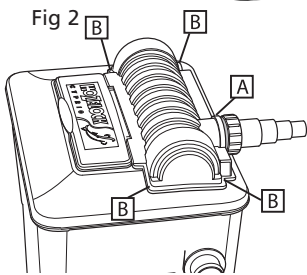
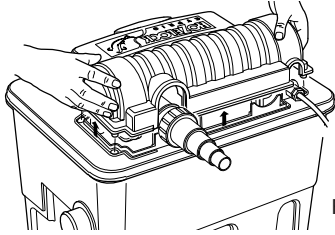

Fig 2
Fig 8
! Direct exposure to ultra-violet light can damage eyes and skin. **DO NOT** attempt to view the ultra-violet lamp when lit. To check the lamp look at the opaque inlet Connector (See 'A' Fig 2) which will glow when the lamp is on.
1.6 Wet Test: It is essential that the unit is wet tested before connecting to the mains electricity. With the electrical cover / viewing hatch removed, connect the hoses to the inlet and outlet as described in 1.4 above. Switch on the **PUMP ONLY** and run for an hour. Inspect the top of the unit and inside the quartz glass tube for leaks (see Figs 8, 9 & 10). If any leaks are detected return the filter to the retailer. This test should be repeated when the quartz glass tube is changed.
2.1 Switch off and isolate (by removing the fuse) the pump supplying water to the filter and the power supply to the EcoPower+ unit. Remove the electrical cover / viewing hatch (see Fig 8).
- 2.3 Replace the electrical cover / viewing hatch and tighten the four fixing screws. Switch on the power supply to the Ecopower+ and check via the indicator (see 'A' Fig 2) which will glow when the lamp is on.
7.7 Restart the pump, checking for leaks, which if left undetected could result in the pond being drained of water. Switch the supply to the Ecopower+ on and check via the indicator, (see 'A' Fig 2) that the UVC lamp is working.
8.1 Especially in hard water areas the quartz sleeve sheathing the UVC lamp may become covered in lime scale. This will reduce the efficiency of the unit if it is allowed to build up. To clean, switch off and isolate (by removing the fuse) the pump and the power supply to the Ecopower+. Unscrew the four screws (see 'B' Fig 2) and remove the electrical cover / viewing hatch as shown in Fig 8.
8.4 Before switching the UV lamp on restart the pump checking for leaks. Replace the electrical cover / viewing hatch and tighten the four fixing screws (see 'B' Fig 2). Providing there are no leaks, switch on the power supply to the Ecopower+.